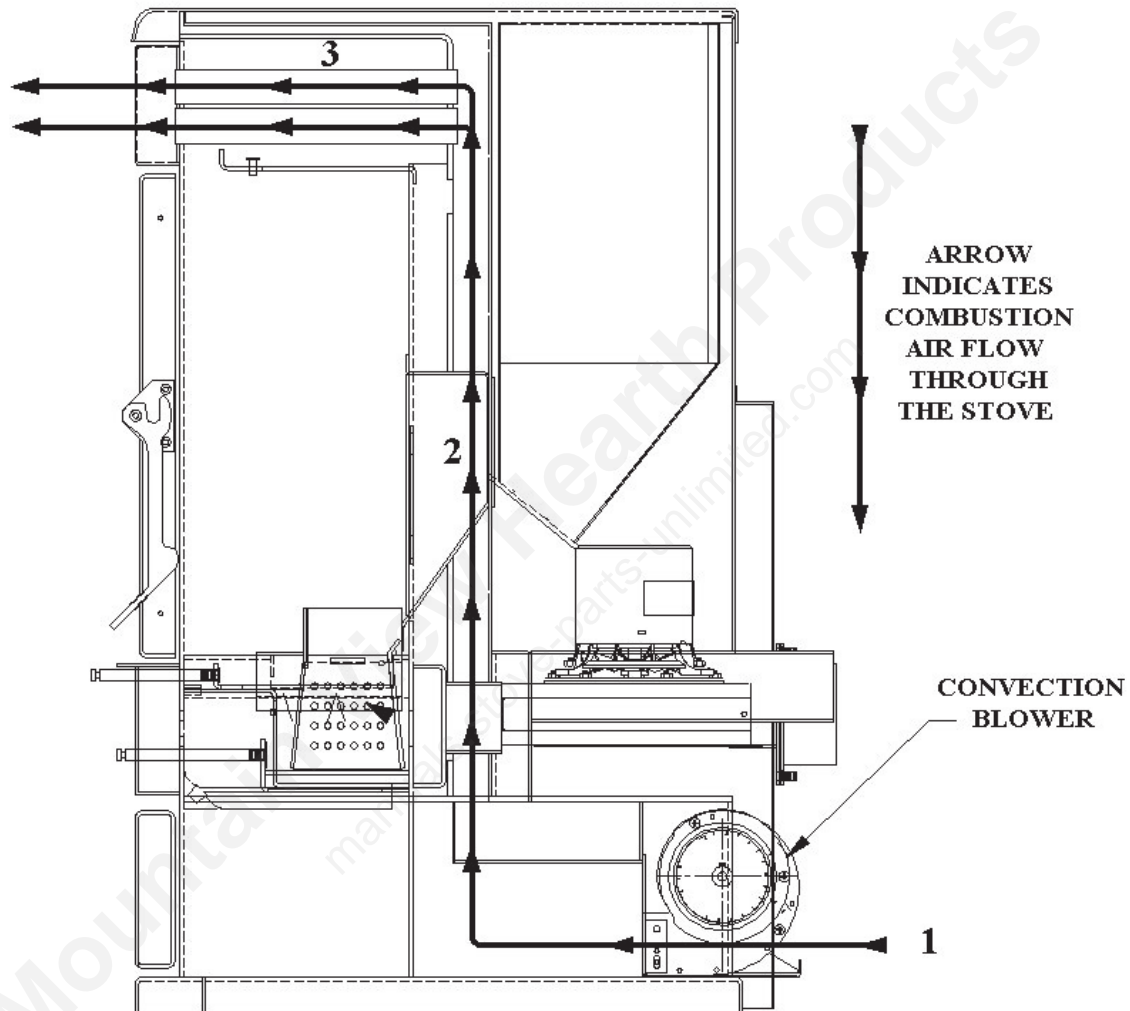

Figure 21
*Location:* The warm air plenum carries room air from the convection fan, past the hot air plenum where it picks up heat. The room air is then delivered through the heat tubes into the room. See Figure 21 on Page 96.